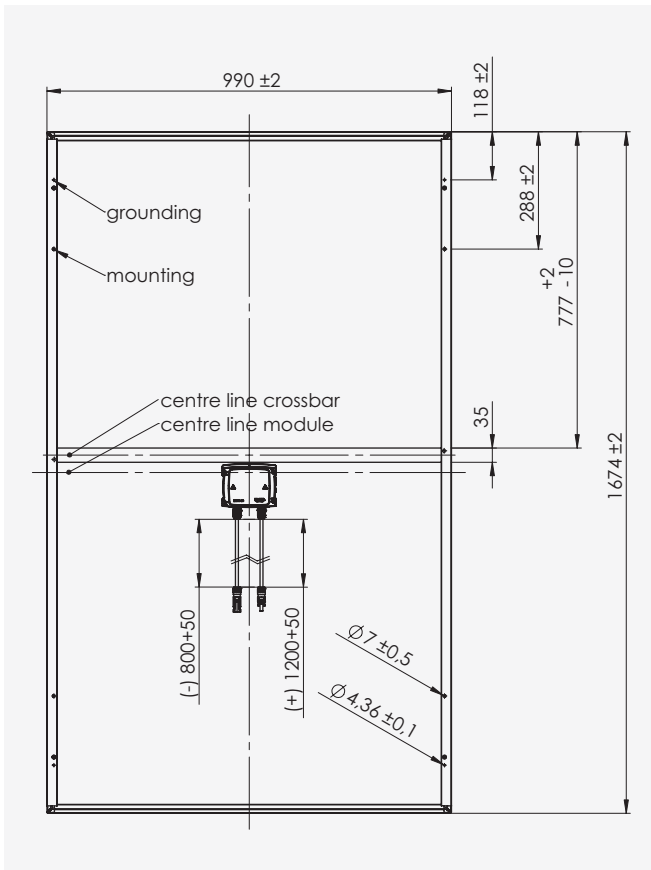

Figure 2: Rear Bosch Solar Module c-Si M60+ S EU56117
- ▶ Ensure that the mounting holes are correctly positioned as in Figures 2 and 4 when fitting the module using mounting holes. You are also to use four corrosion resistant screws and nuts as per Table 1 and washers with a minimum outside diameter of 12 mm and a maximum of 14 mm.
Consider that the module crossbar is not in the middle of the module. See Figure 2 for details.
- ▶ Position of the mounting holes for grounding according to Figures 2 and 4.